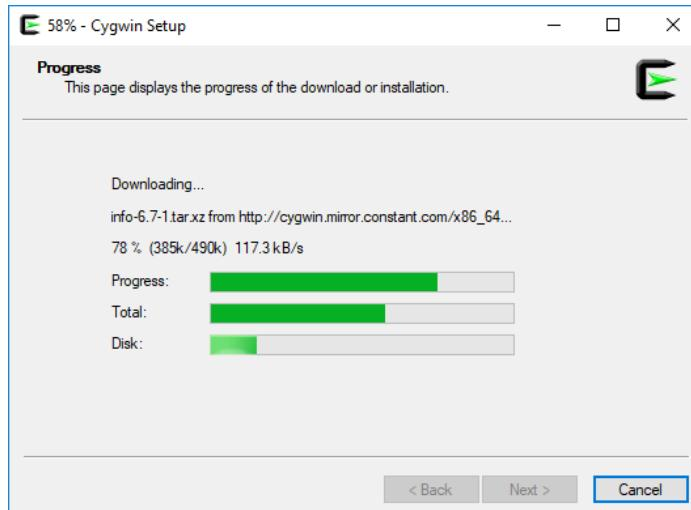

Figure 91. Cygwin setup
5. Once you have selected all the packages, click **Next** in the subsequent windows to include these packages in your Cygwin installation (the installation process, see Figure 91, may take several minutes).